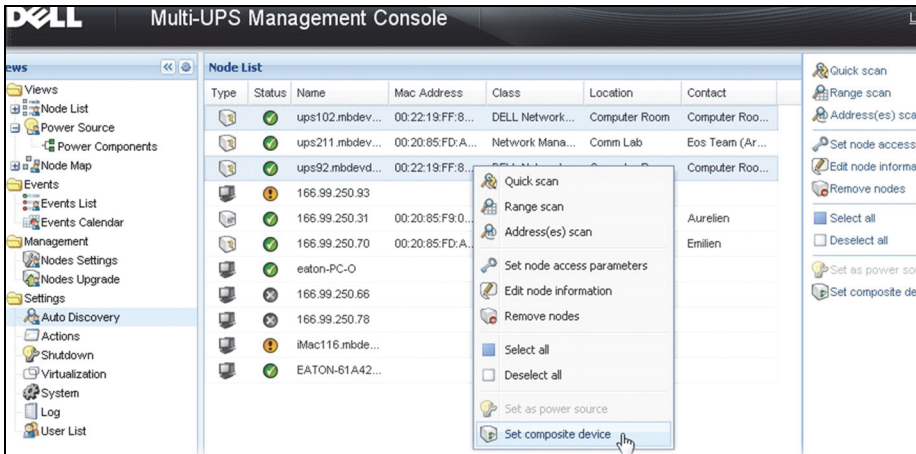

Figure 82. Selecting Set Composite Device for Nodes
- 3 Click Set composite device (see Figure 82).